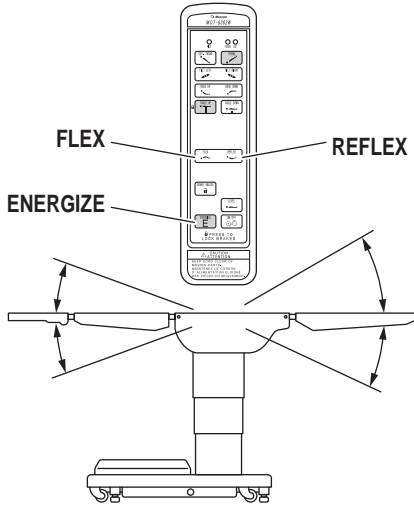

Figure 2-12. Flex/Reflex Positioning
**f. Flex Positioning** To place the table top in a flex position from horizontal, press the ENERGIZE button and then the FLEX button (figure 2-12). To return the table top to a horizontal position or into a reflex position, press the ENERGIZE button and then the LEVEL or REFLEX button.